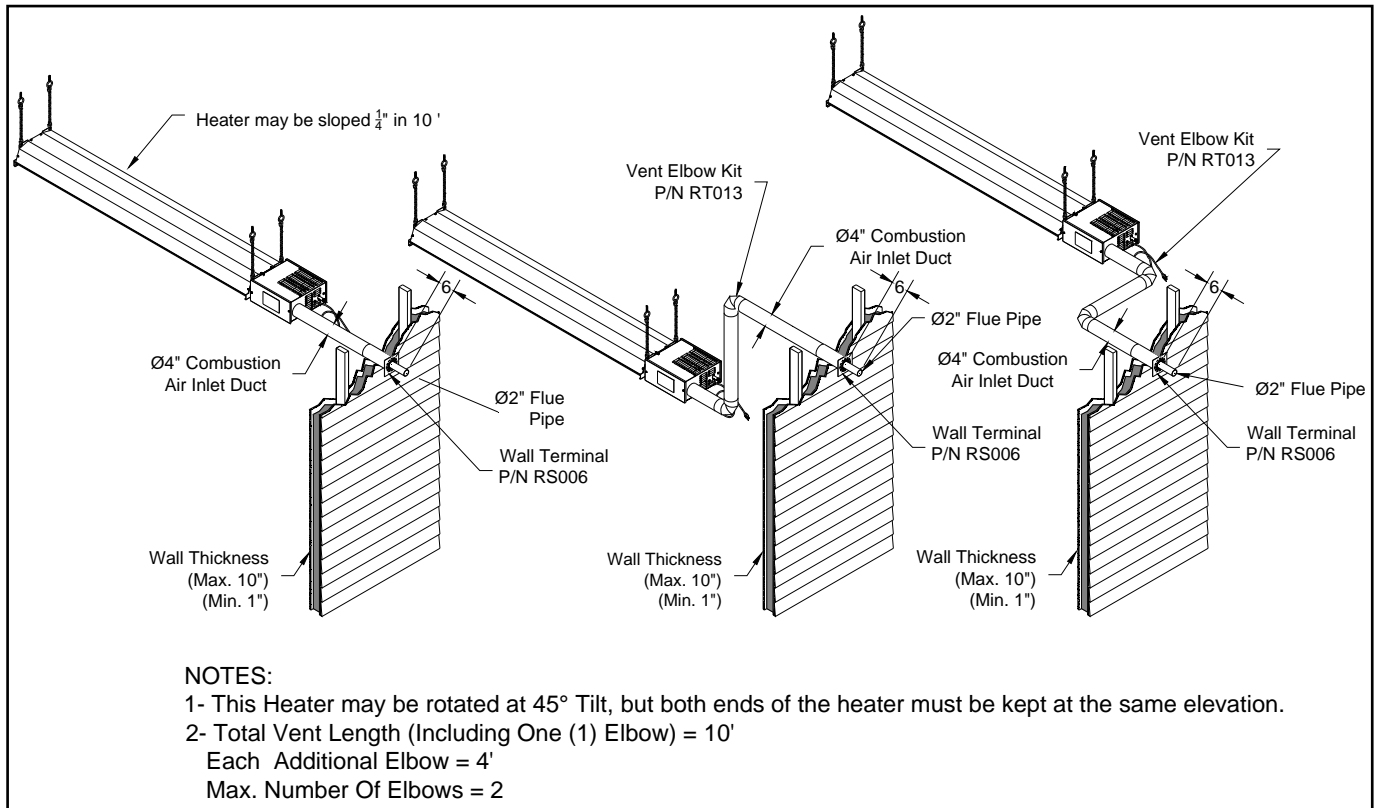

Figure 10: Various Venting Orientations
- This equipment is of balanced flue construction and must **be horizontally vented** (see Figure 10). Vertical venting is permitted, but not as a balanced flue assembly. (See roof venting)
- For horizontal venting where an elbow is utilized an elbow kit (Part No. RT013) must be used, refer to Figure 10 for more details.